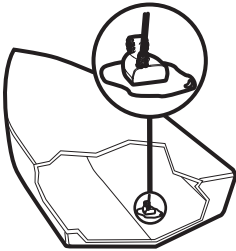

Figure 27
- Observe the outside of the boat hull to find the areas that are mostly free from turbulent water. Avoid ribs, strakes and other protrusions, as these create turbulence (Figure 27).
3. Place the transducer body face down at the identified mounting location inside the hull, with the pointed end towards the bow (Figure 27).
5. Coat the face of the transducer and the inside of the hull with epoxy (Figures 27 and 29).